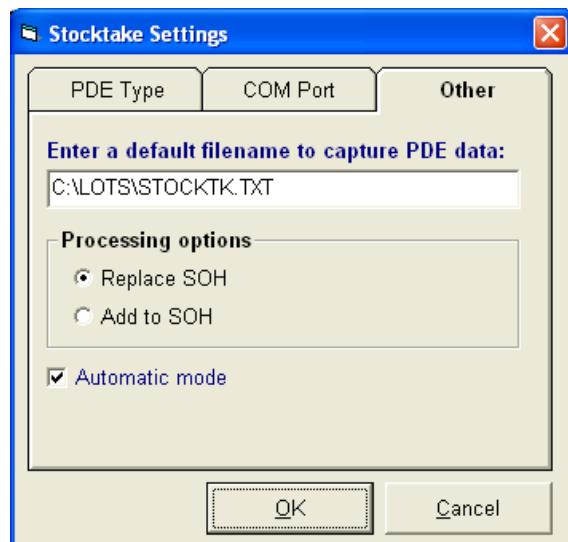

Figure 333
6. The third tab is 'Other' this tab allows you define where the data from the handheld device get saved to and what processing option you wish to use (see Figure 333). The two different processing option are: